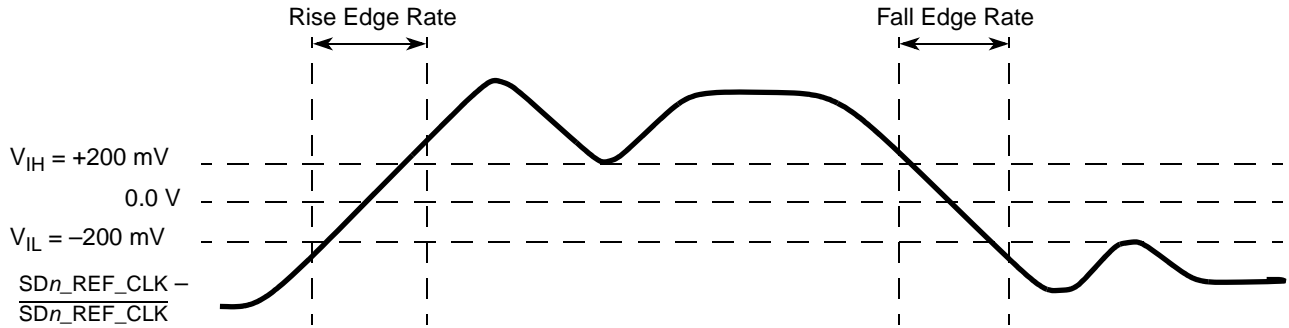

Figure 48. Differential measurement points for rise and fall time
- Measured from -200 mV to +200 mV on the differential waveform (derived from  $\text{SD}_n\text{\_REF\_CLK}$  minus  $\overline{\text{SD}_n\text{\_REF\_CLK}}$ ). The signal must be monotonic through the measurement region for rise and fall time. The 400 mV measurement window is centered on the differential zero crossing. See Figure 48.